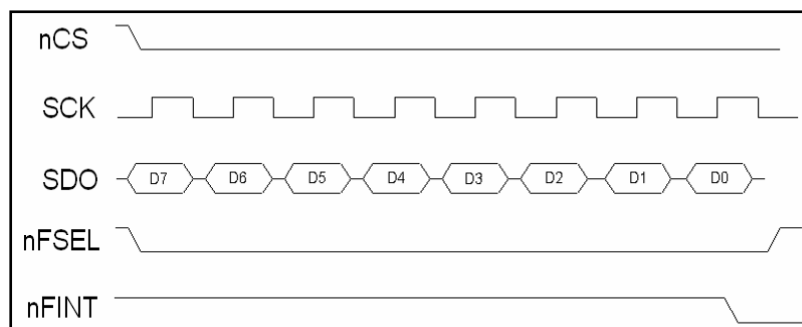

Figure 8. Recommended FIFO Read Method Timing
The Rx FIFO is directly accessible by using the nFSEL select pin (6) and monitoring the FINT interrupt pin (7) for pending data. Each data bit may be clocked in on the rising edge of SCK. See Figure 8 for timing reference.